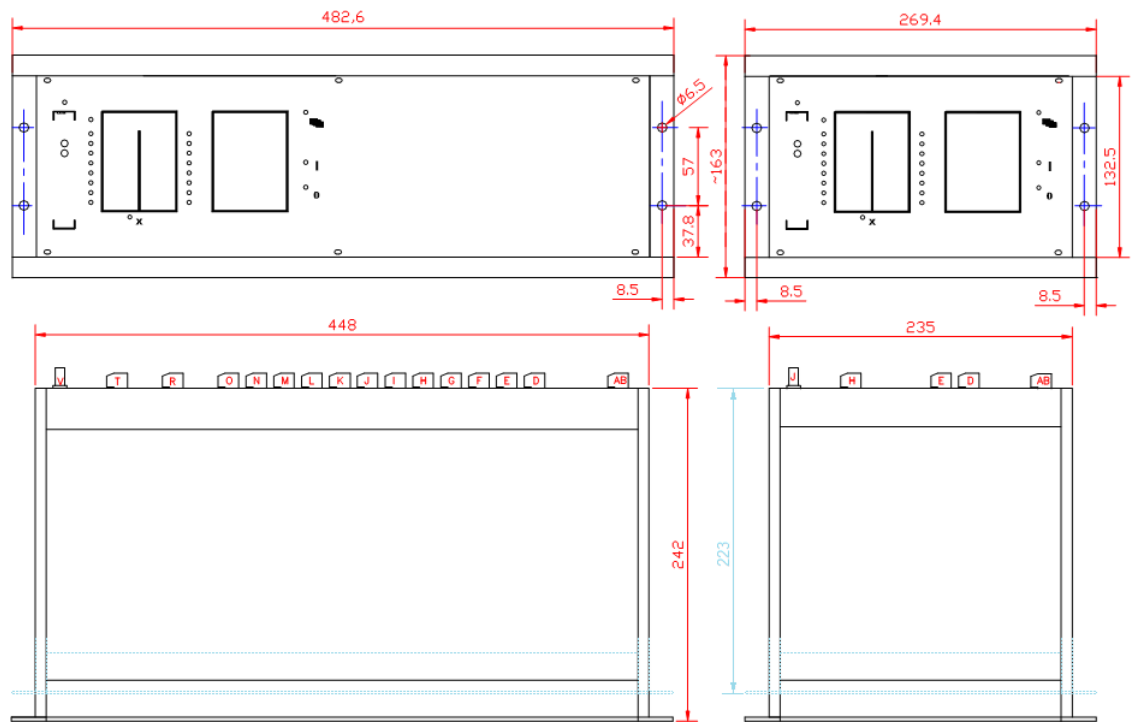

Figure 22-1 Dimensions for flush mounting of the previous 84HP and 42HP single rack, including the new (shorter) rack dimensions as well.
*The mounting methods described in Chapter 21 are valid for the previous racks as well, keeping in mind that the depth of the device is 19 mm bigger than that of the drawings. As an example, see the previous drawing of the flush mounting for 42HP and 84HP devices in Figure 22-1. As a comparison, the new, shorter rack is also drawn in **light blue**.*